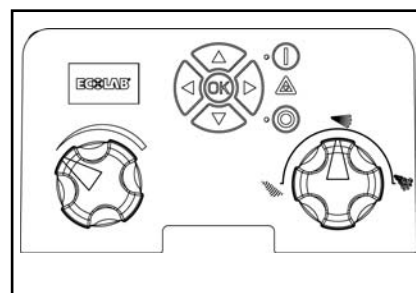

Fig. 14
The main station is now ready for operation. Press "I" on the control panel. (see fig. 14)
2. Press "I" on the control panel to start. (see fig.14)